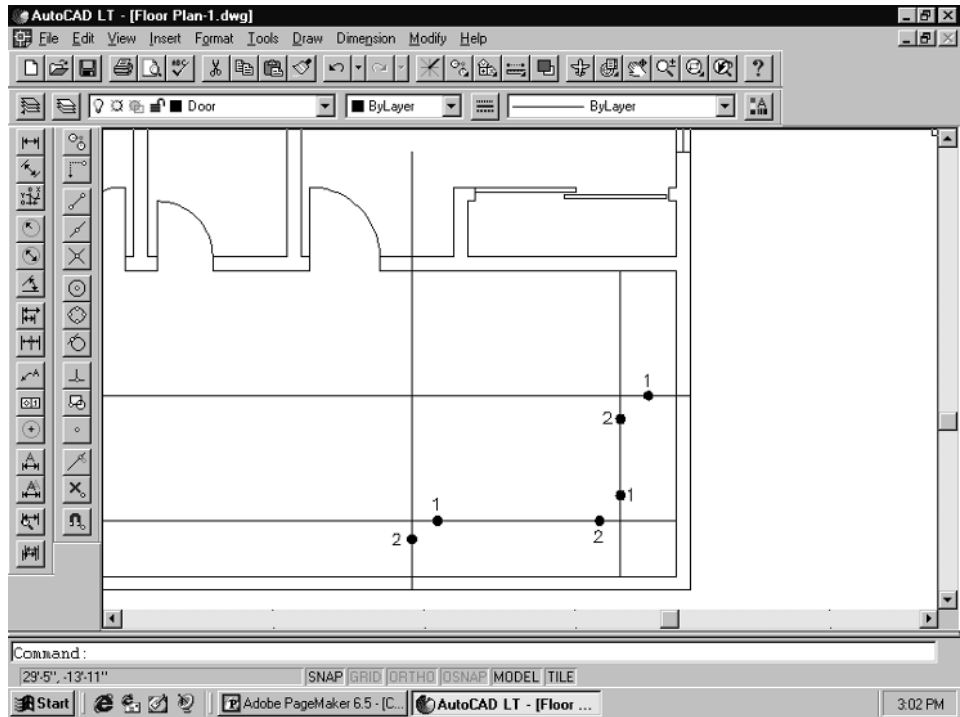

Figure 2-69
3. Now, use the Fillet command to clean up the counter top. Select **Fillet** from the Modify pull-down menu, or type **Fillet** and **Enter**. Pick the lines as shown in Figure 2-69.